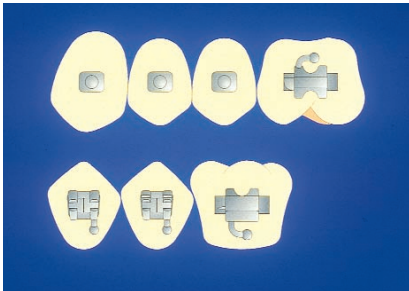

Figure 8: Proper placement of buttons and brackets
7. Upon delivery of the appliance, try everything in before placing any brackets. Once you are satisfied that the appliance has been made to your specifications, go ahead and place the buttons and brackets on the posterior segments (Figure 8). Always use hooks or posted brackets on the lower posterior teeth. Because of the excessive angulation of the buccal surfaces of the lower posterior teeth, simple bonded buttons will often let the vertical elastics slip.